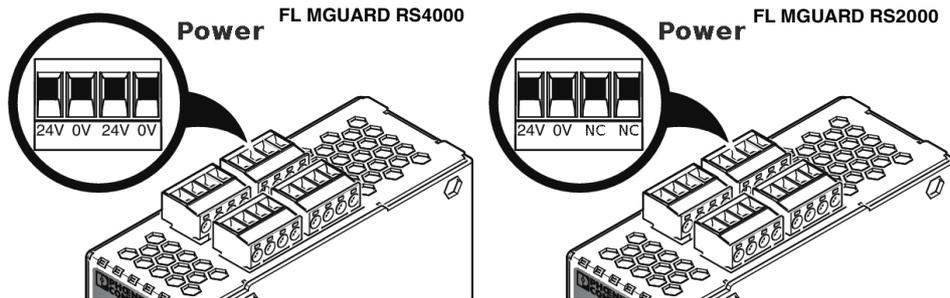

Figure 1-4 Connecting the supply voltage
- Insert the screw terminal blocks into the intended sockets on the top of the device (see Figure 1-4).